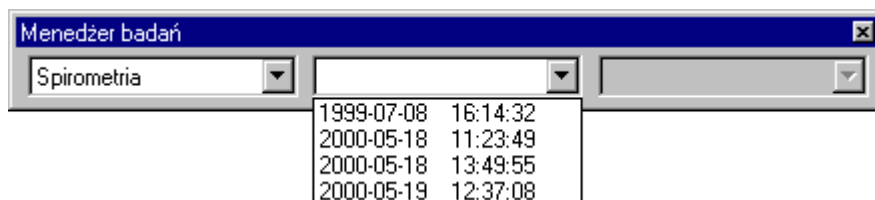

Fig.15. Test manager with the pulled out list *Main test date*
1. Select the item for the test you want to review on the list *Test type*. Then, the list *Main test date* (⇒Fig. 15) will be pulled out. For main and subordinate tests see chapter 8.